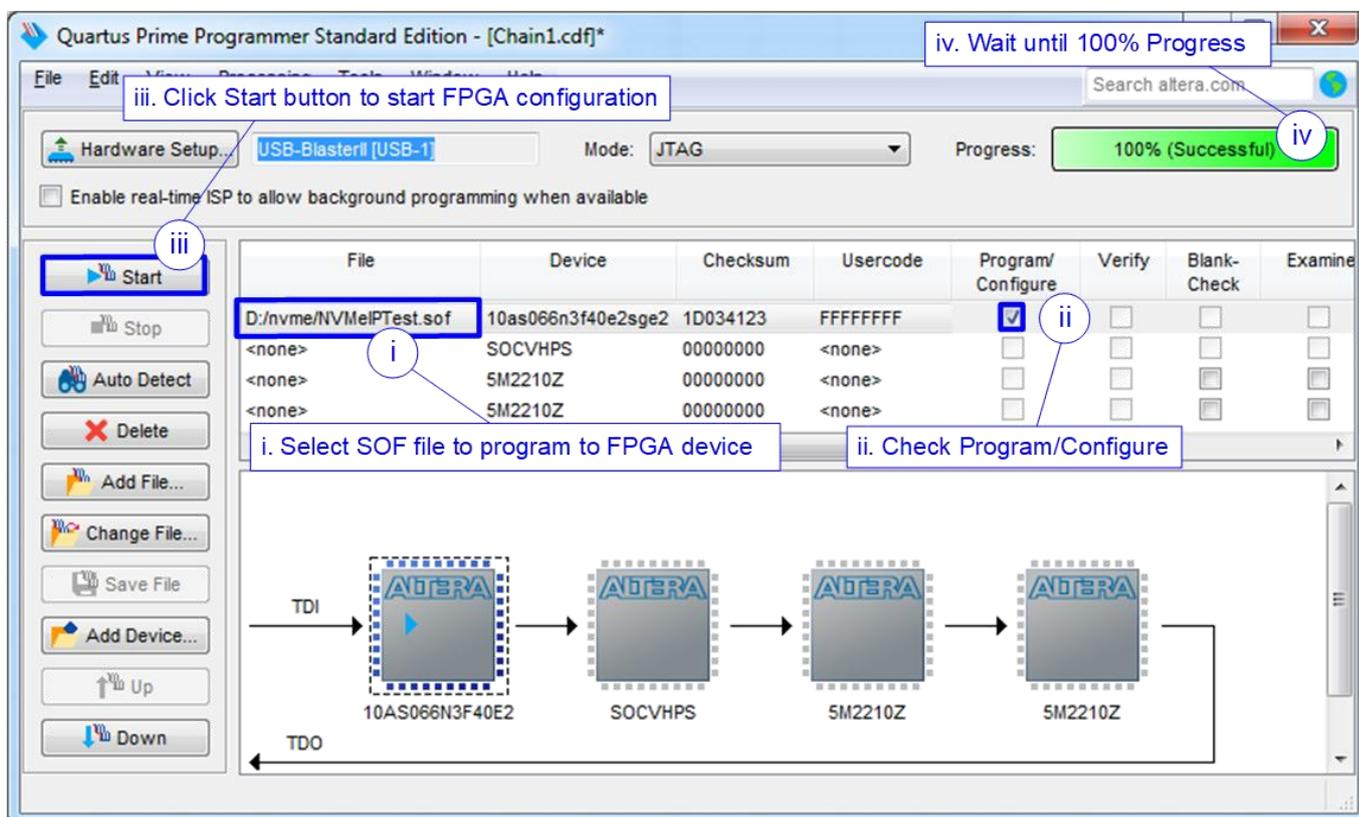

Figure 2-12 Programmed by QuartusII Programmer
- 1) Use QuartusII Programmer to program “NVMeIPTest_xxx.sof” file, as shown in Figure 2-12.